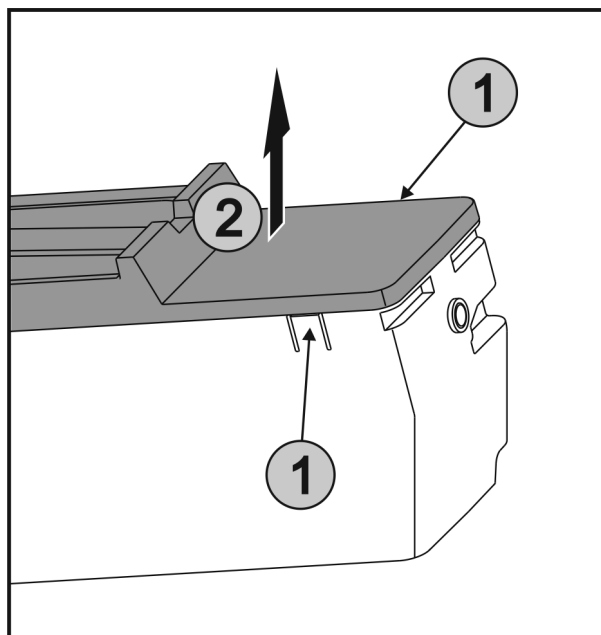

Fig. 31
- Press the lugs Fig. 31 (1) on both sides of the EasyTwist-Ice simultaneously and take off the cover Fig. 31 (2) upwards.